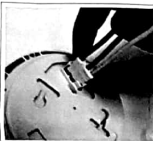

Figure 4
- Assemble alarm unit onto the mounting plate by turning the alarm unit counter-clockwise. See Figure 4
- Restore the AC supply by plugging the AC QUICK CONNECTOR into the back of the alarm (see Figure 4). Make sure that the locks on the connector snap into place.
- Reattached the heat alarm to the mounting plate by rotating the alarm unit counter-clockwise until the it snaps into place. (see Figure 4)